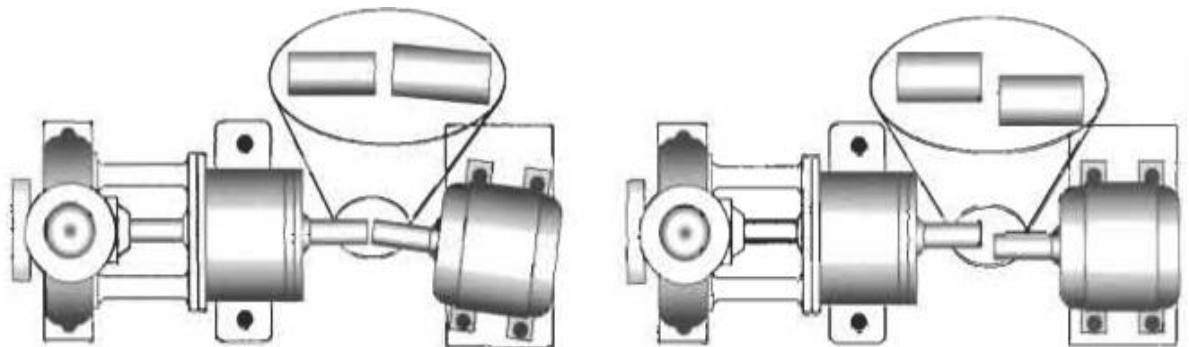

Fig 3.2 Top view of horizontal/angular and horizontal/parallel misalignment
- Vertical/parallel misalignment (Figure 3.2)